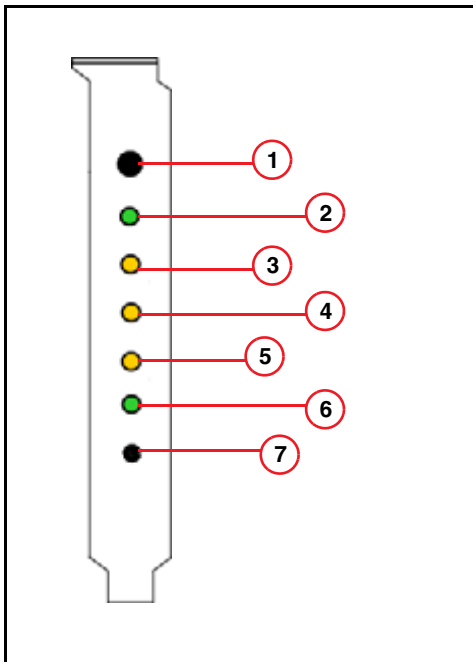

Fig. 8: Dashboard
- The **ON/OFF** button (1/Fig. 8 / p. 34) is used to switch each computer system on and off, independent of the other computers.
- The green **Power** LED (2/Fig. 8 / p. 34) indicates that the computer is on or off.
- Temperature monitoring is currently supported via "PC Health monitoring" only. In case of failure, a message is sent to the EventLog, but the yellow LED **Overheat** (3/Fig. 8 / p. 34) does not light up.
- Each computer system is monitored for power. The LED **Power Fail** on (4/Fig. 8 / p. 34) indicates a power failure. Additionally, an error message is sent to the EventLog.
- The monitoring of the fans is currently supported only via "PC-Health monitoring". In case of failure, an error message is transferred to the EventLog, but there is no indication of the yellow LED **Fan Fail** (5/Fig. 8 / p. 34).
- The green LED **HDD Busy** (6/Fig. 8 / p. 34) indicates access to the hard disk drive of the operating system.
- The **Reset Button** (7/Fig. 8 / p. 34) is used to prompt the computer to perform a hardware reset. A boot-up is performed. Use a pen with a thin tip to press the button.